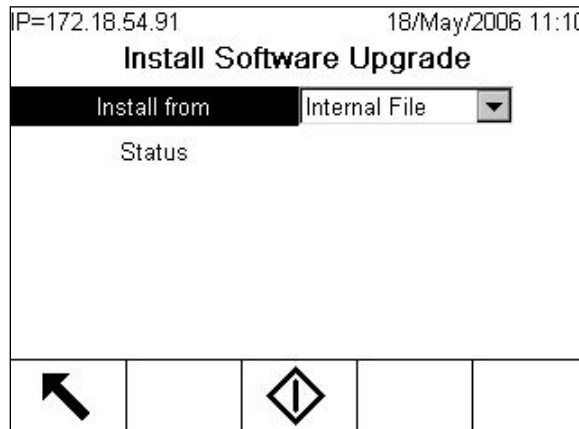

Figure 4-2: Firmware Upgrade Screen
5. Use the arrow keys to move focus to **Maintenance > Run > Install Software Upgrade**. When the node is in focus, press ENTER. The screen shown in Figure 4-2 will appear.